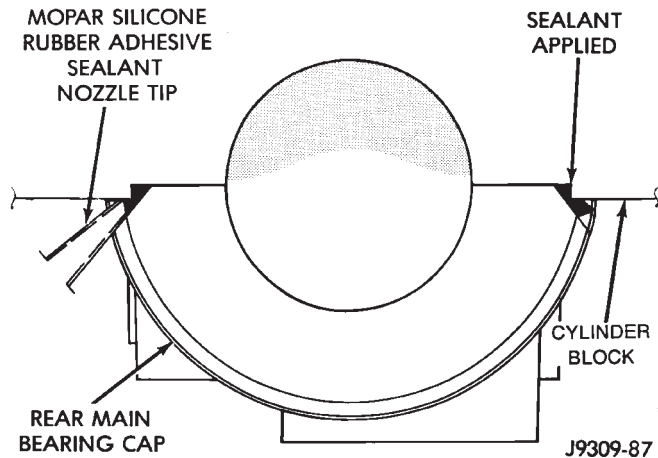

Fig. 48 Apply Sealant to Bearing Cap to Block Joint FRONT CRANKSHAFT OIL SEAL
(7) To align the bearing cap, use cap slot, alignment dowel and cap bolts. DO NOT remove excess material after assembly. DO NOT strike rear cap more than 2 times for proper engagement.
(8) Clean and oil all cap bolts. Install all main bearing caps. Install all cap bolts and alternately tighten to 115 N·m (85 ft. lbs.) torque.
(9) Install oil pump.
(10) Install the timing chain cover.
(11) Install the vibration damper.
(12) Apply Mopar Silicone Rubber Adhesive Sealant, or equivalent, at bearing cap to block joint to provide cap to block and oil pan sealing (Fig. 48). Apply enough sealant until a small amount is squeezed out. Withdraw nozzle and wipe excess sealant off the oil pan seal groove.
(13) Install new front crankshaft oil seal.
(14) Immediately install the oil pan.